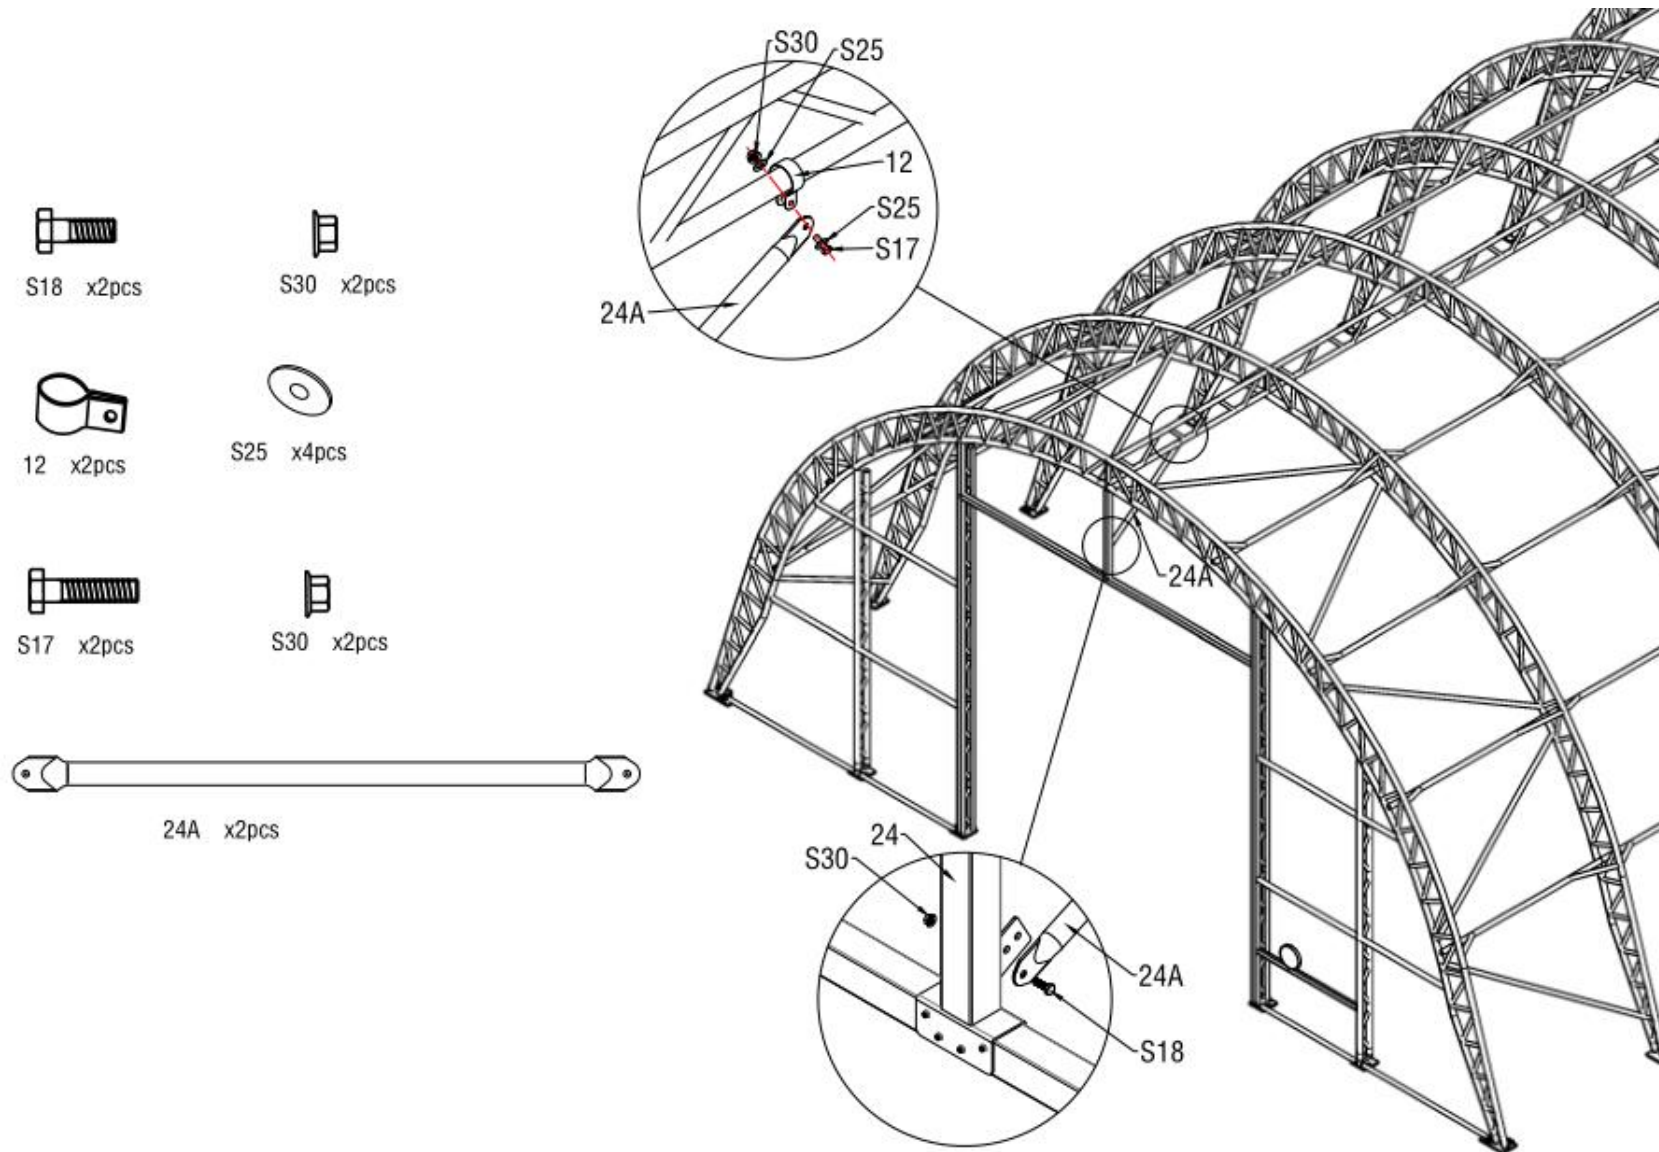

Figure 15
2. Fix clips (No. 12) on Double Trussed Purlins (No. 8) and install the Diagonal Support Tube For door beam (No. 24A) on clips as figure 15 shows. Please connect the Diagonal Support Tube For door beam (No. 24A) between door frame and Double Trussed Purlins (No. 8) by using Screw M10x30 (No. S18) and Screw M10x50 (No. S17) with plain washer M10 (No. S25).